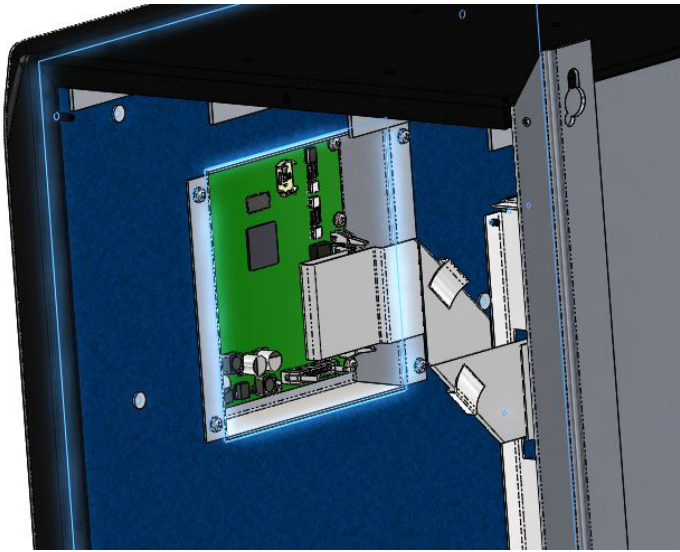

Figure 5: Removing the System Controller/Display Cover
8. See Figure 5. Use a stubby Phillips screwdriver to remove four screws securing the system controller/display as shown below: